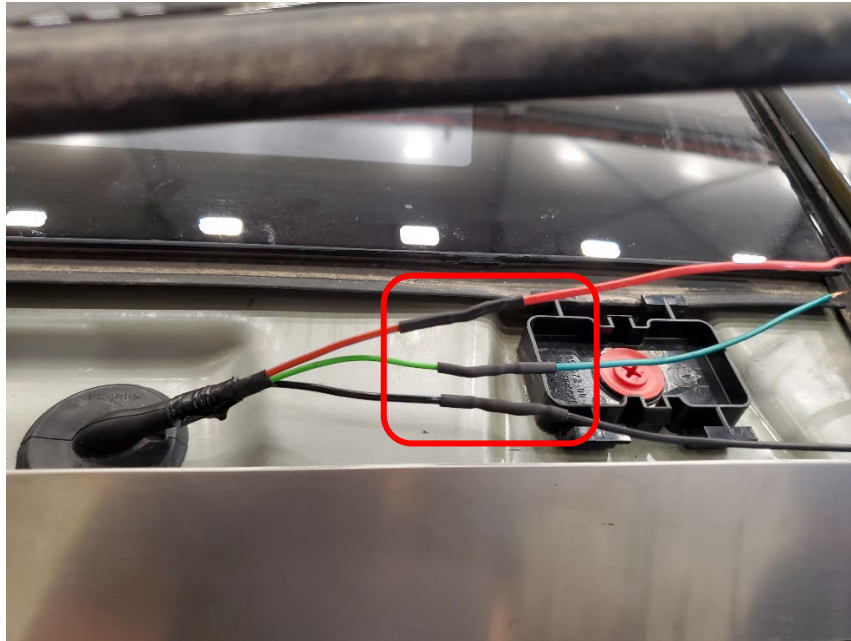

Figure 19 – Heat shrink tubes correctly installed
24. Inspect the heat shrink tubes (x3) to make sure that the tubes are fully sealed and bonded to the wire insulation (Figure 19).